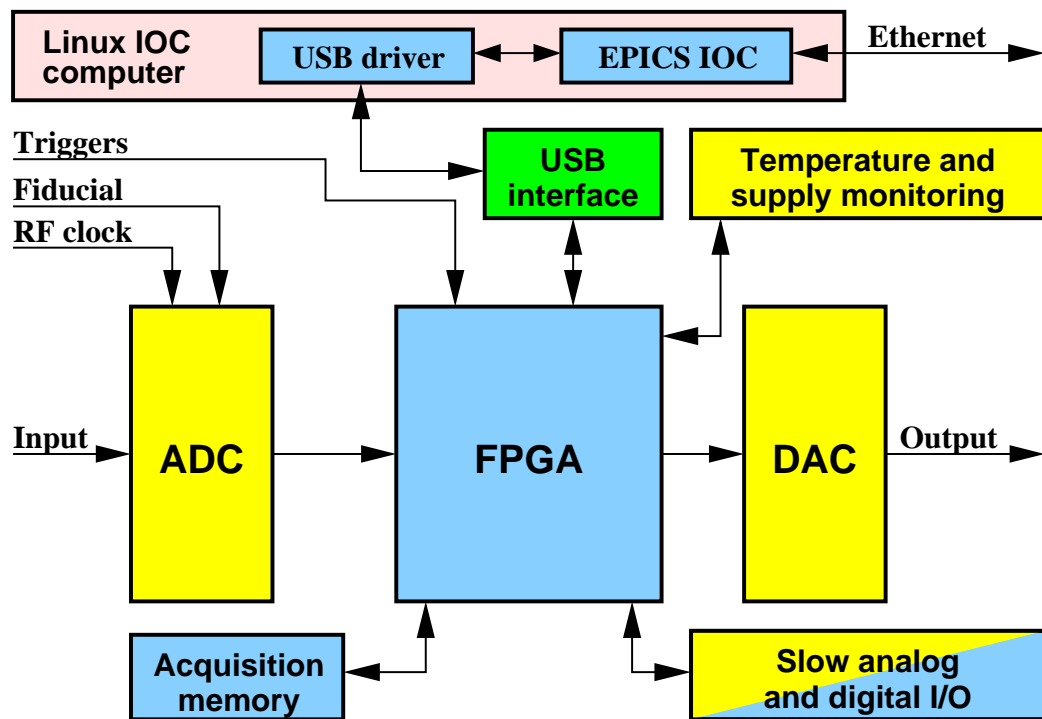

Figure 1: iGp12-184F block diagram
A block diagram of the iGp12-184F system is shown in Figure 1. The main signal processing chain consists of a high-speed 12-bit analog-to-digital converter (ADC), a field programmable gate array (FPGA), and a high-speed 12-bit DAC, all driven by the radio frequency (RF) clock. In addition to performing real-time control computations, the FPGA interfaces to a number of on-board devices, such as high-speed data acquisition memory (static random access memory (SRAM)), low-speed analog and digital input/output (I/O), as well as temperature and supply voltage monitors. In turn, the FPGA uses an internal universal serial bus (USB) connection to communicate to an embedded input-output controller (IOC) computer housed in the same chassis. The IOC runs the Linux operating system and is connected to the overall control system via the Ethernet.